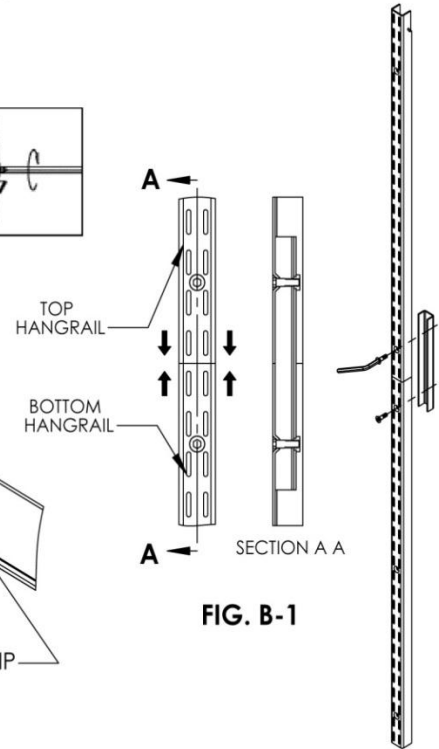

FIG. B-1
Hang Rail Assembly: (Fig. B-1) Assemble (2) 63" long hang rail assembly consisting of 3 parts, (A) Top Slotted section (B) Bottom rail section and (C) Hang rail connector with 2 bolts.